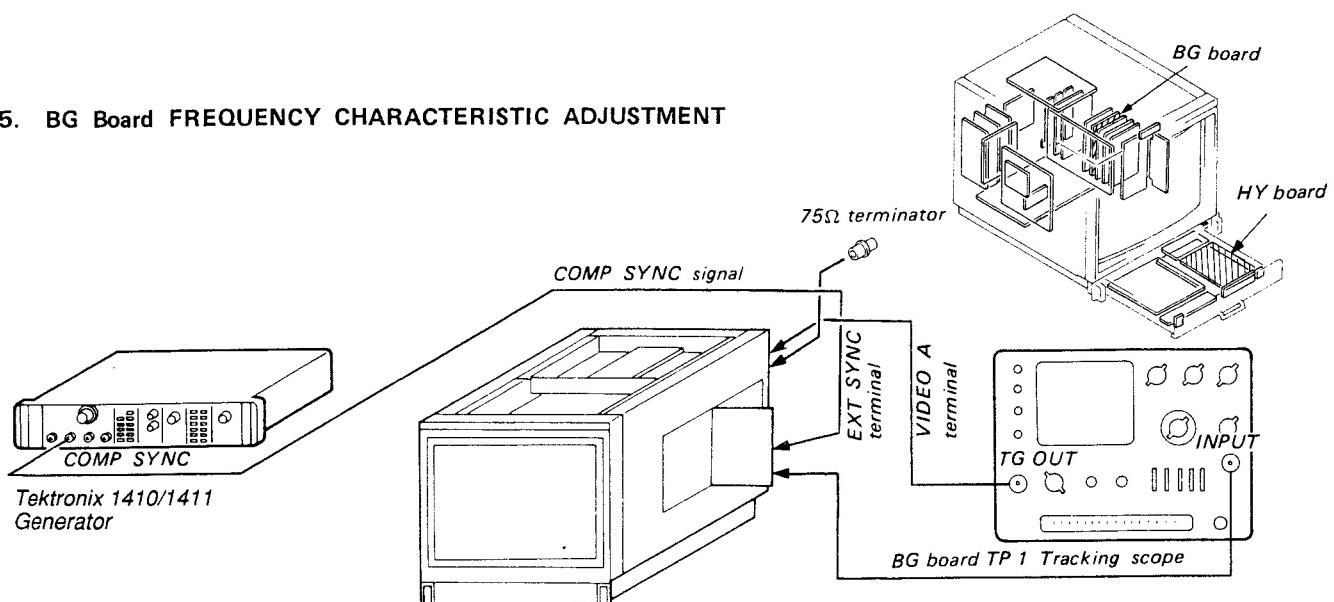

Fig. 5-1
1. Complete the connection as shown in Fig 5-1.